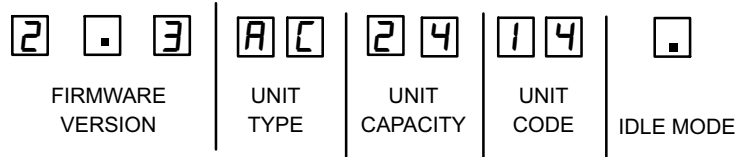

Figure 17. Outdoor Control 7-Segment Unit Status Displays
If the single-character display shows three (3) horizontal lines, the unit selection code needs to be programmed. Press and hold the button until the P U menu option is displayed, release button. The single-character display displays the selected mode per example in figure 17 on page 36. When the desired unit selection code appears, press and hold the button until it stops flashing, then release.